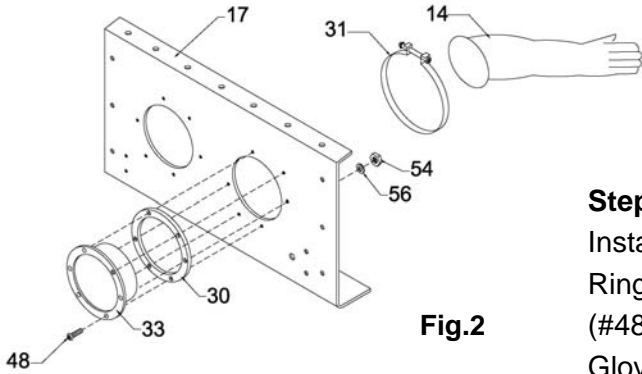

Fig.2
Step 2 -- Cabinet Front Plate Assembly see Figure 2